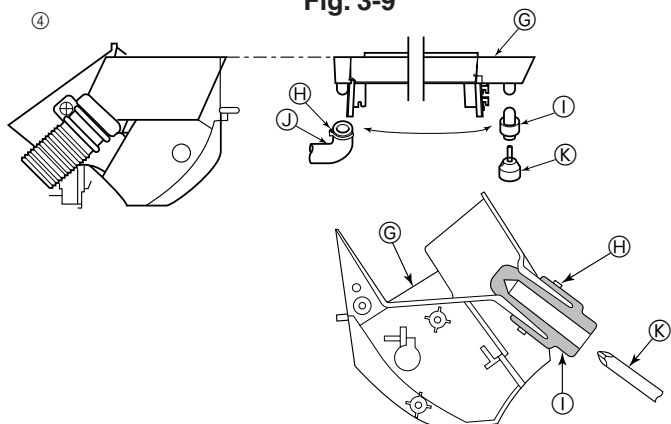

Fig. 3-10
- ④ The drain hose can be connected at two different positions. Use the most convenient position and, if necessary, exchange the position of the drain pan, rubber plug and the drain hose. (Fig. 3-10)